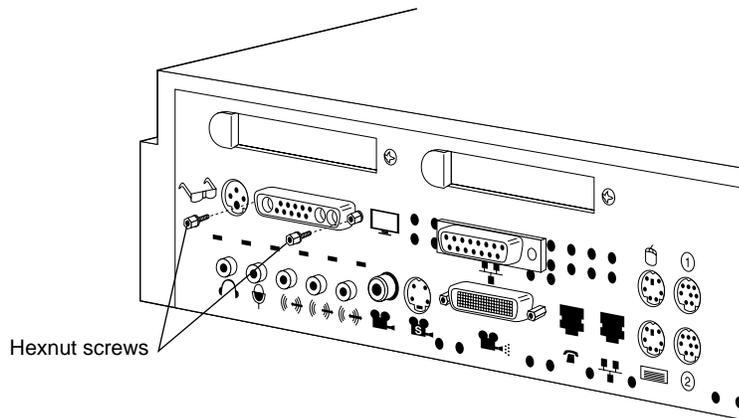

Figure 2-16 Replacing the Screws on the Backplane
5. Insert two hexnut screws through the rear of the workstation, as shown in Figure 2-16.